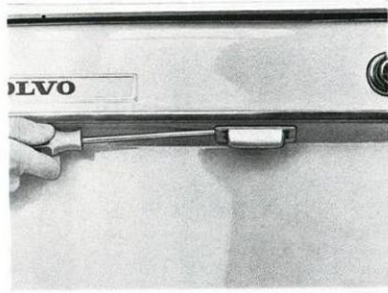

Fig. 3-118. Removing license plate light
1. Remove the license plate light with the help of a crosshead screwdriver according to Fig. 3-118.
Press in the catches in the bulb housing by inserting a screwdriver in the opening on the left-hand side of the housing, see Fig. 3-118. Pull the housing out of its attachment.